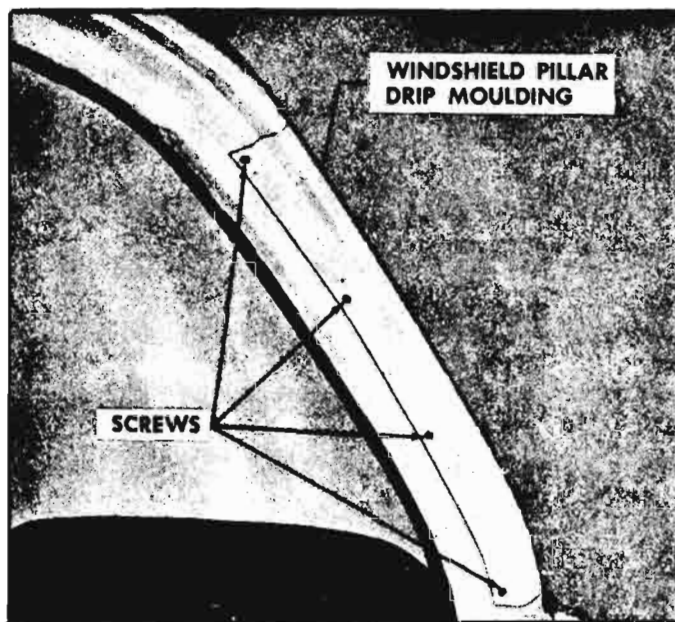

Fig. 10-30—Windshield Pillar Drip Moulding
1. Remove screws (fig. 10-30) securing drip moulding and remove moulding. On "700" styles, slide drip moulding downward to disengage upper end of moulding from under front roof drip scalp moulding.